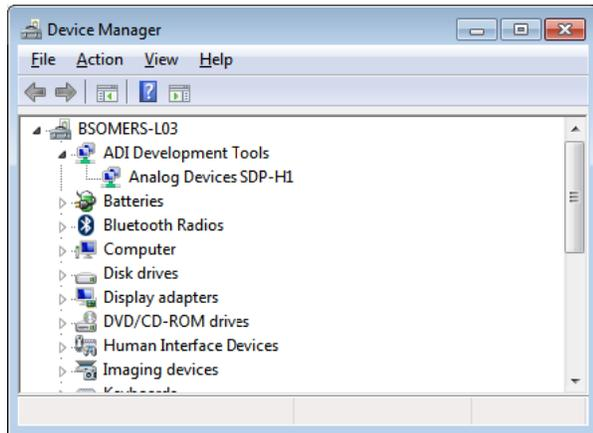

Figure 15. Device Manager Window
- Navigate to the **Device Manager** window of the PC (see Figure 15).
4. The **Computer Management** window opens. In the list labeled **System Tools**, click **Device Manager**. If the **SDP-H1** driver software is installed, and the board is properly connected to the PC, **Analog Devices SDP-H1** is shown in the **ADI Development Tools** list in the **Device Manager** window, as shown in Figure 15.
4. If the EVAL-ADAQ4001FMCZ or EVAL-ADAQ4003FMCZ does not appear to be functioning, ensure that the EVAL-ADAQ4001FMCZ or EVAL-ADAQ4003FMCZ is connected to the SDP-H1 board and that the SDP-H1 is recognized in the **Device Manager** window, as shown in Figure 15.
5. When no data is read back, confirm that the EVAL-ADAQ4001FMCZ or EVAL-ADAQ4003FMCZ is connected to the SDP-H1 and that the SDP-H1 is recognized in the **Device Manager**, as shown in Figure 15.